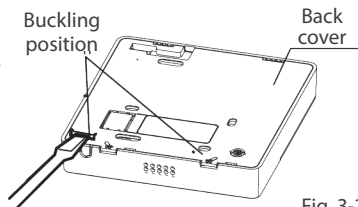

Fig. 3-2
- Insert a slot screwdriver into the slots in the lower part of the wired controller (2 places), and remove the upper part of the wire controller (Fig.3-2).